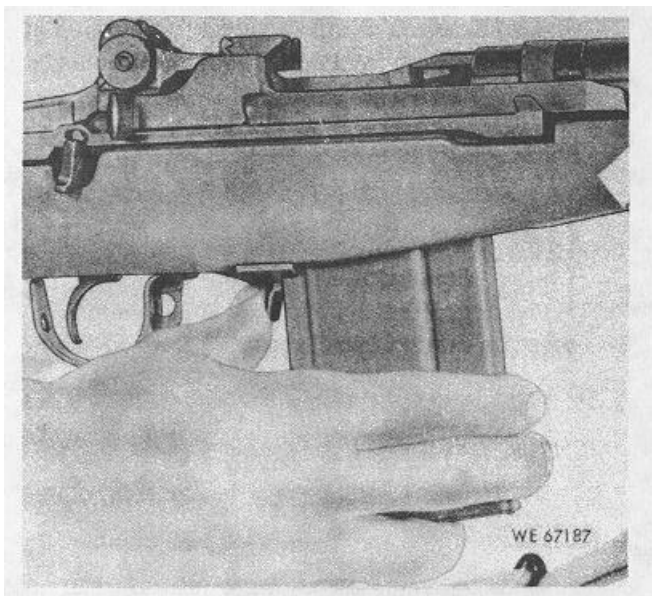

Figure 2-12. Removing magazine from rifle.
- b.* Remove the magazine by pressing magazine latch (fig. 2-12).